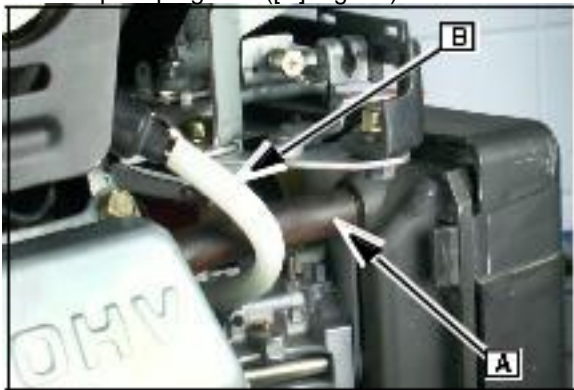

Fig. 22
Install the breather tube (A) and route the spark plug wire ([B] Fig. 22) as shown.